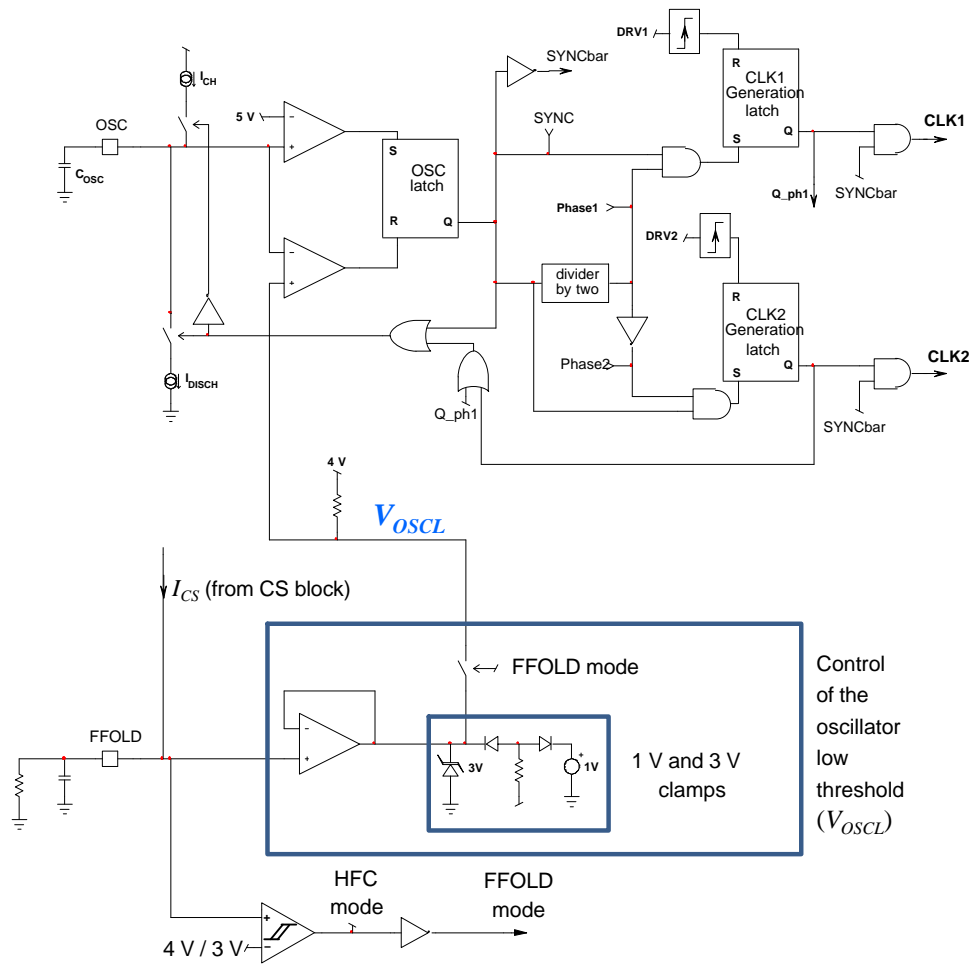
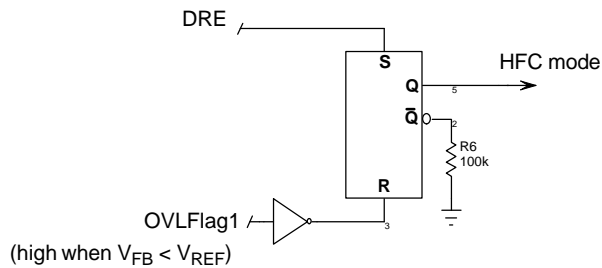
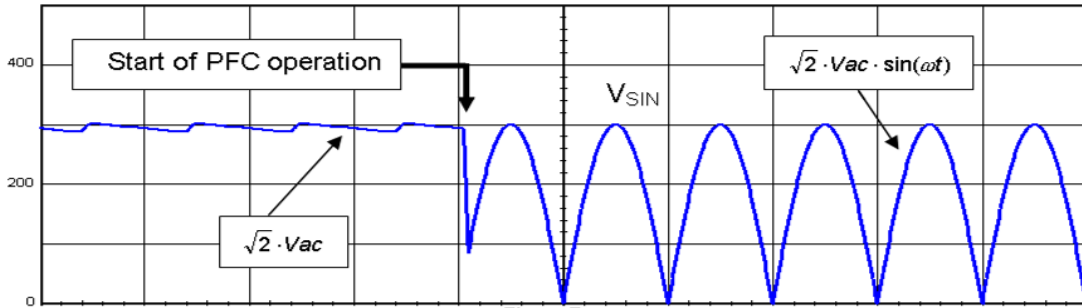

Figure 13. FFOLD Mode Management
Figure 19. Easing HFC-mode Recovery
Figure 22. Typical Input Voltage of a PFC Stage
As shown by Figure 13, a current source I_{CH} (140 μ A typically) charges the OSC pin capacitor until its voltage exceeds $V_{OSC(high)}$ (5 V typically). At that moment, the oscillator enters a discharge phase for which I_{DISCH} (105 μ A typ.) discharges the OSC pin capacitor. This sequence lasts until V_{OSC} goes below the oscillator low threshold V_{OSCL} and a new charging phase starts*. An internal signal (“ $SYNC$ ” of Figure 19) is high during the discharge phase. A divider by two uses the $SYNC$ information to manage the phases of the interleaved PFC: the first $SYNC$ pulse sets “phase 1”, the second one, “phase 2”, the third one phase 1 again... etc.
of operation, the PFC stage may run in DCM and may not be able to provide the full power. To solve this, the NCP1632 forces HFC operation whenever the DRE comparator trips* and remains in HFC mode until the output voltage recovers its regulation level (that is when *OVFlag1* of Figure 22 turns low). At that moment, the conduction mode is normally selected as a function of the FFOLD pin voltage. See Figure 19.
- ◆ Before operation, the PFC stage is off and the input bridge acts as a peak detector (refer to Figure 22). As a consequence, the input voltage is approximately flat and nearly equates the ac line